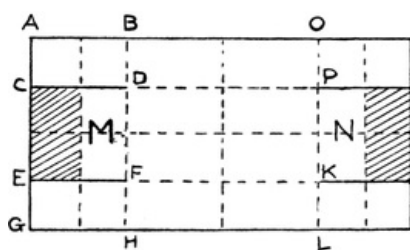
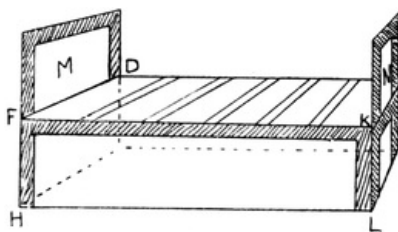

FIG. 28
FIG. 29
**A Bed.** Fold a double square as in Fig. 28. Cut portions indicated. Gum A B C D to E F G H, the same the other side. Bend up M and N to form head and foot of bed. These can be cut any shape, or simply be coloured to represent beams. Legs can be drawn on or cut out of sides F H K L and B O D P (Fig. 29).